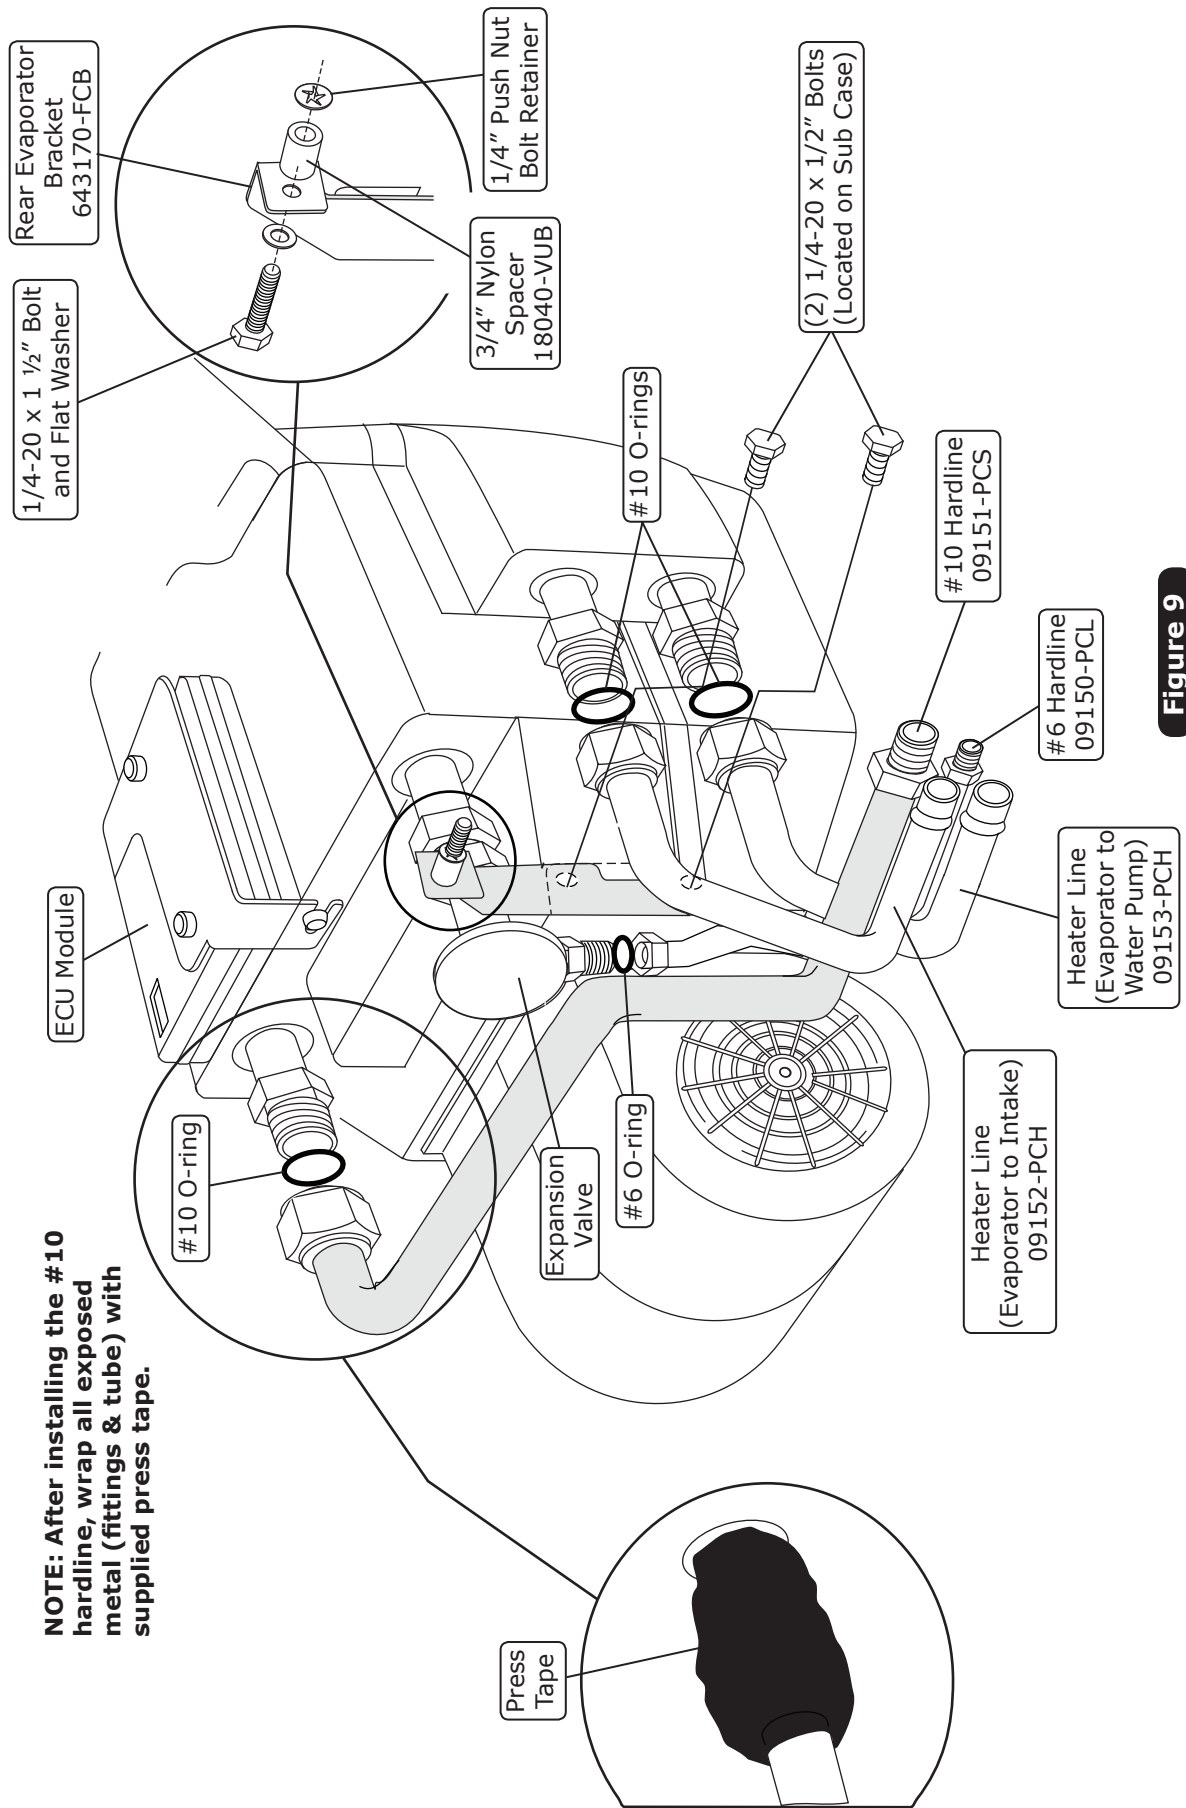
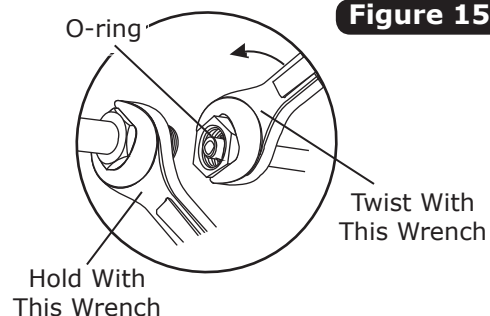

Figure 9
Figure 15
1. On a workbench, install the evaporator rear bracket using (2) 1/4-20 x 1/2" hex bolts as shown in Figure 9, Page 12.
2. Install the A/C and heater hardlines with properly lubricated O-rings (See Figure 15, Page 15, and Figure 9, Page 12).
1. Locate the #8 compressor A/C hose. Lubricate (2) #8 O-rings (See Figure 15, Page 15) and connect the #8 135° fitting with service port to the #8 discharge port on the compressor (See Figure 17, Page 17). Then route the straight fitting to the #8 condenser hardline coming from under the radiator core support (See Figure 17, Page 17). Tighten each fitting connection as shown in Figure 15, Page 15.
2. Locate the #10 compressor A/C hose. Lubricate (2) #10 O-rings (See Figure 15, Page 15) and connect the #10 135° fitting to the #10 suction port on the compressor (See Figure 17, Page 17). Then route the straight fitting with service port to the #10 evaporator hardline coming through the firewall (See Figure 16, below). Tighten each fitting connection as shown in Figure 15, Page 15.
3. Locate the #6 evaporator hardline. Lubricate (2) #6 O-rings (See Figure 15, Page 15) and connect the hardline to the #6 hardline on the fenderwell coming under the radiator core support from the drier (See Figure 17, Page 17). Then route the other end of the hardline with lubricated O-ring to the #6 evaporator hardline coming through the firewall (See Figure 16, below). Tighten each fitting connection as shown in Figure 15, Page 15.